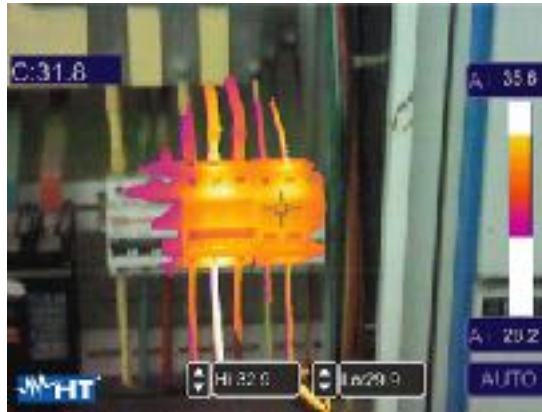

Fig. 40: Selection of Visible range
11. Touch the “Hi” and “Lo” fields at the bottom of the display and use the arrow keys ▲ or ▼ to set the value of the **maximum** and **minimum** temperature threshold. The instrument shows as radiometric IR image the spots with a temperature between the “Lo” and the “Hi” threshold, and as a visible image the spots with a temperature outside that range (see Fig. 40).